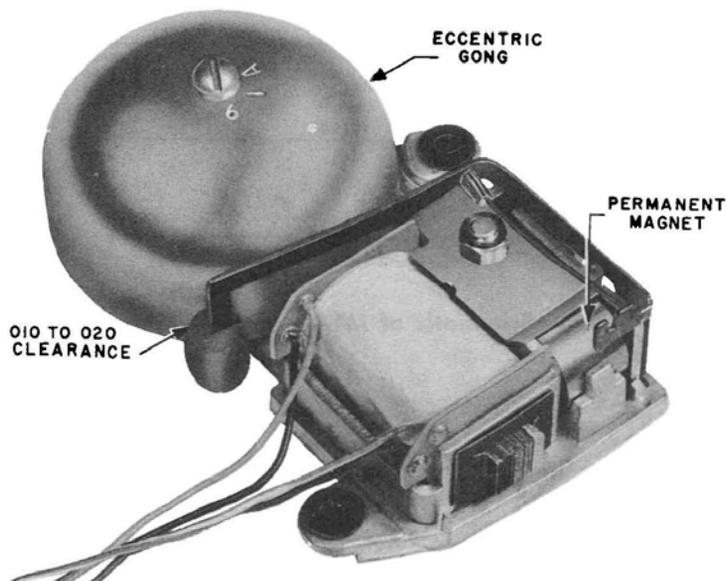

Fig. 1 — M1A Ringer
2.02 The M1A (Fig. 1) and N1A (Fig. 2) ringers are single-coil, single-gong ringers. The coil is tapped, making party identification possible. The ringers are designed to operate in series with an 0.45-mf capacitor.